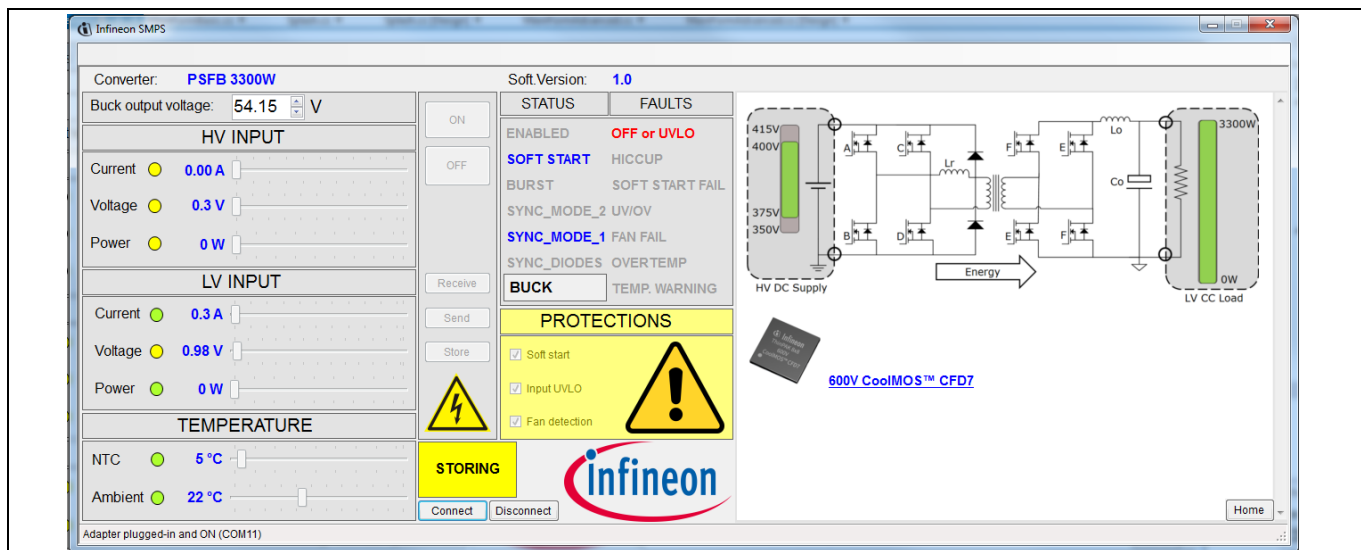

Figure 10 The user interface confirms the parameters are being stored with the message “Storing”
3. The storing function takes some time, during which the GUI is disabled. A “Storing” message appears during that time (Figure 10).